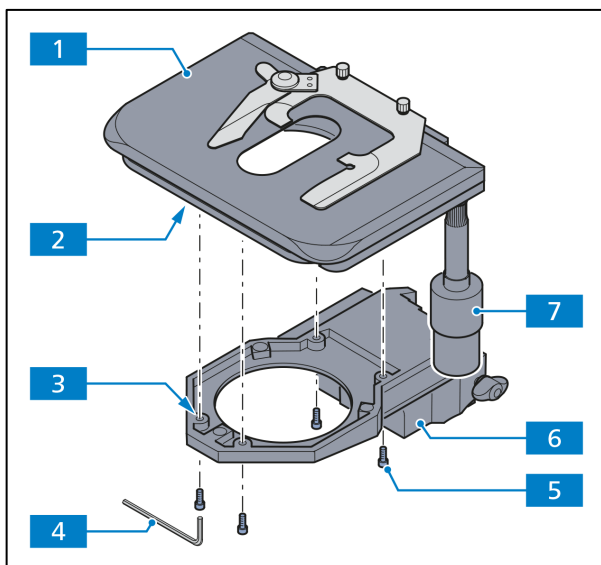

Fig. 3-10 Changing the mechanical stage, 75x50 R
Stages are available with a coaxial gear knob (Fig. 3-10/7) located on the right or the left side of the stage.
(1) Stable mechanical stage, 75x50 R
- Remove the four mounting screws (Fig. 3-10/5) on the stage carrier (Fig. 3-10/6) using the Allen wrench (AF 3) (Fig. 3-10/4).
- Remove the stage (Fig. 3-10/1) from the stage carrier. This is easier if you turn the stage and its
- Fit the stage (Fig. 3-10/1) onto the stage carrier (Fig. 3-10/6) so that the threaded holes in the bottom of the stage (Fig. 3-10/2) are on top of the corresponding holes in the stage carrier (Fig. 3-10/3).
- Insert the four mounting screws (Fig. 3-10/5) from below through the holes in the stage carrier and screw them into the bottom of the stage.